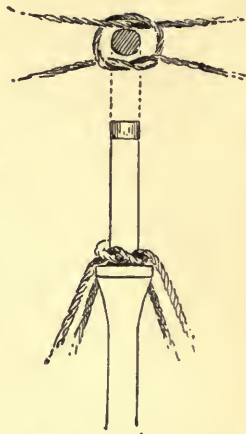

FIG. 16.—COLLAR KNOT.
**COLLAR KNOT** (fig. 16), for fitting shrouds to a small mast. Two ropes being taken (or one long one doubled into two legs), a simple overhand loop (*see* fig.) is made in the middle of one, and the other rope passed through this, the loop being then passed over the head of the mast. Thus there will be four shrouds, two on either side. The fishermen occasionally use this in case of their shrouds breaking.